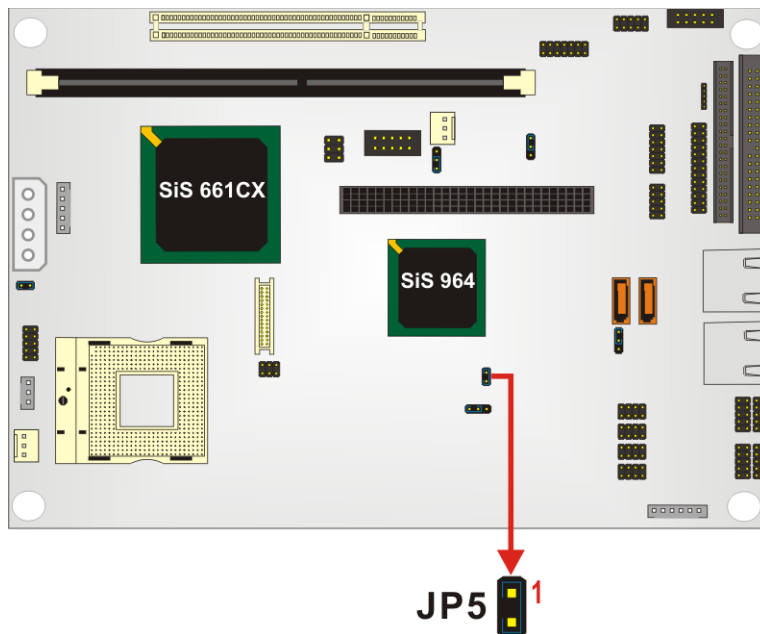

Figure 3-28: JP5 FSB Selection Jumper Locations
- Jumper Location:** See Figure 3-28